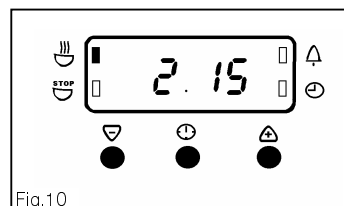

Fig.10
- iii) To set the length of cooking time, press the Selector Control button until the 'Cook Time' indicator is illuminated. Press the increase control button (+) until the required length of cooking time is displayed, e.g. 2 hrs 15 mins as Fig. 10. Depress the decrease control button (-) if necessary.